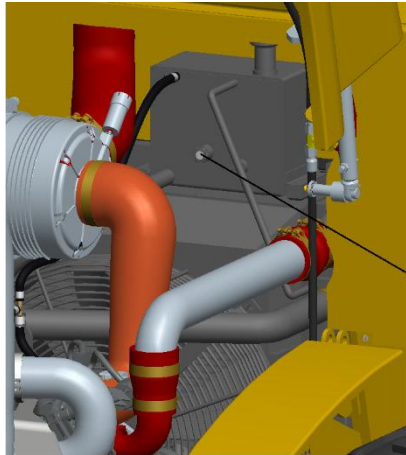

Figure 3-6
3.4.1.4 Check the coolant level (Figure 3-6)